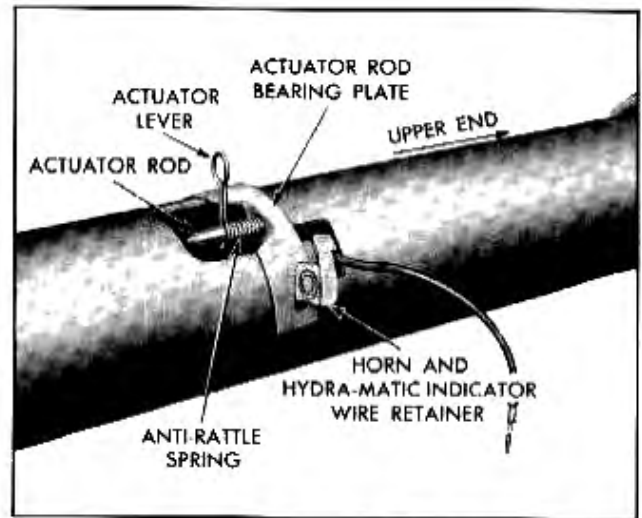

Fig. 12-70 Details at Lower End of Actuator Rod
2. Hold actuator rod anti-rattle coil spring and bearing plate and remove hair spring type actuator lever from rod (Fig. 12-70). **NOTE:** A rag or steering column insulator felt stuffed into the opening below the actuator rod will prevent loss of the spring.